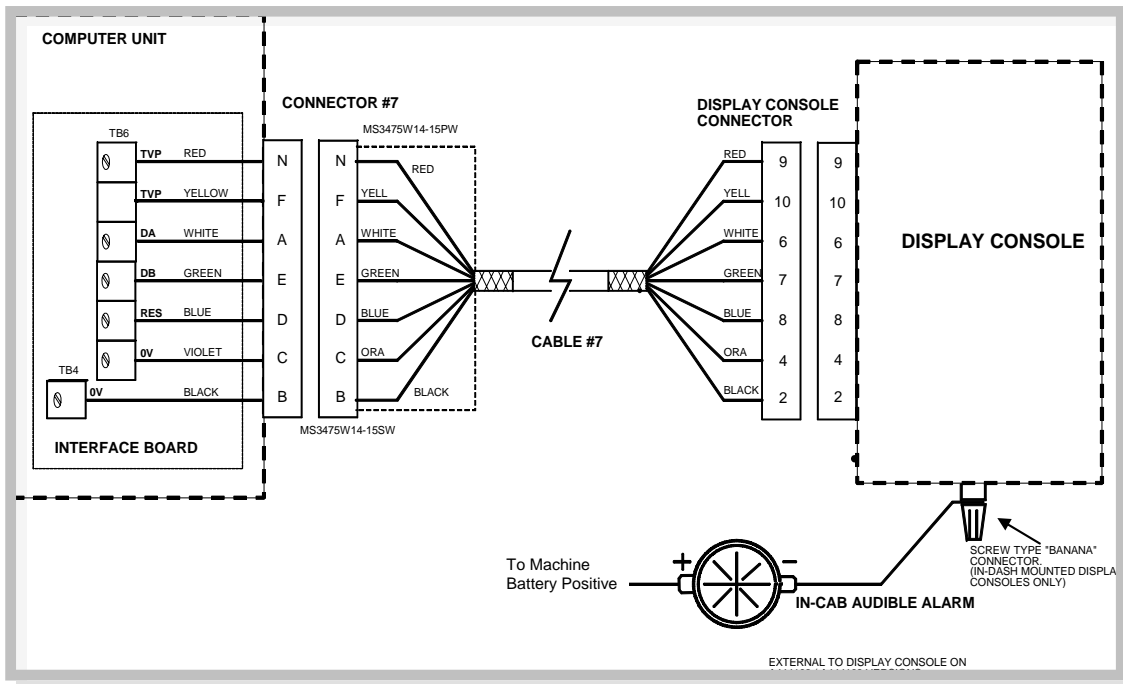

FIGURE 4.8 OPERATOR'S DISPLAY CONSOLE CONNECTION TO COMPUTER
2. Connect the electrical cable to the electrical connector on the rear of the Operator's Display Console. Refer to Figure 4.8.